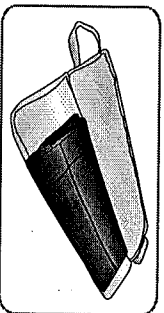

Figure 27
3. Put the folded fabric into the fabric bag and fasten the slide (Figure 27 - 28).